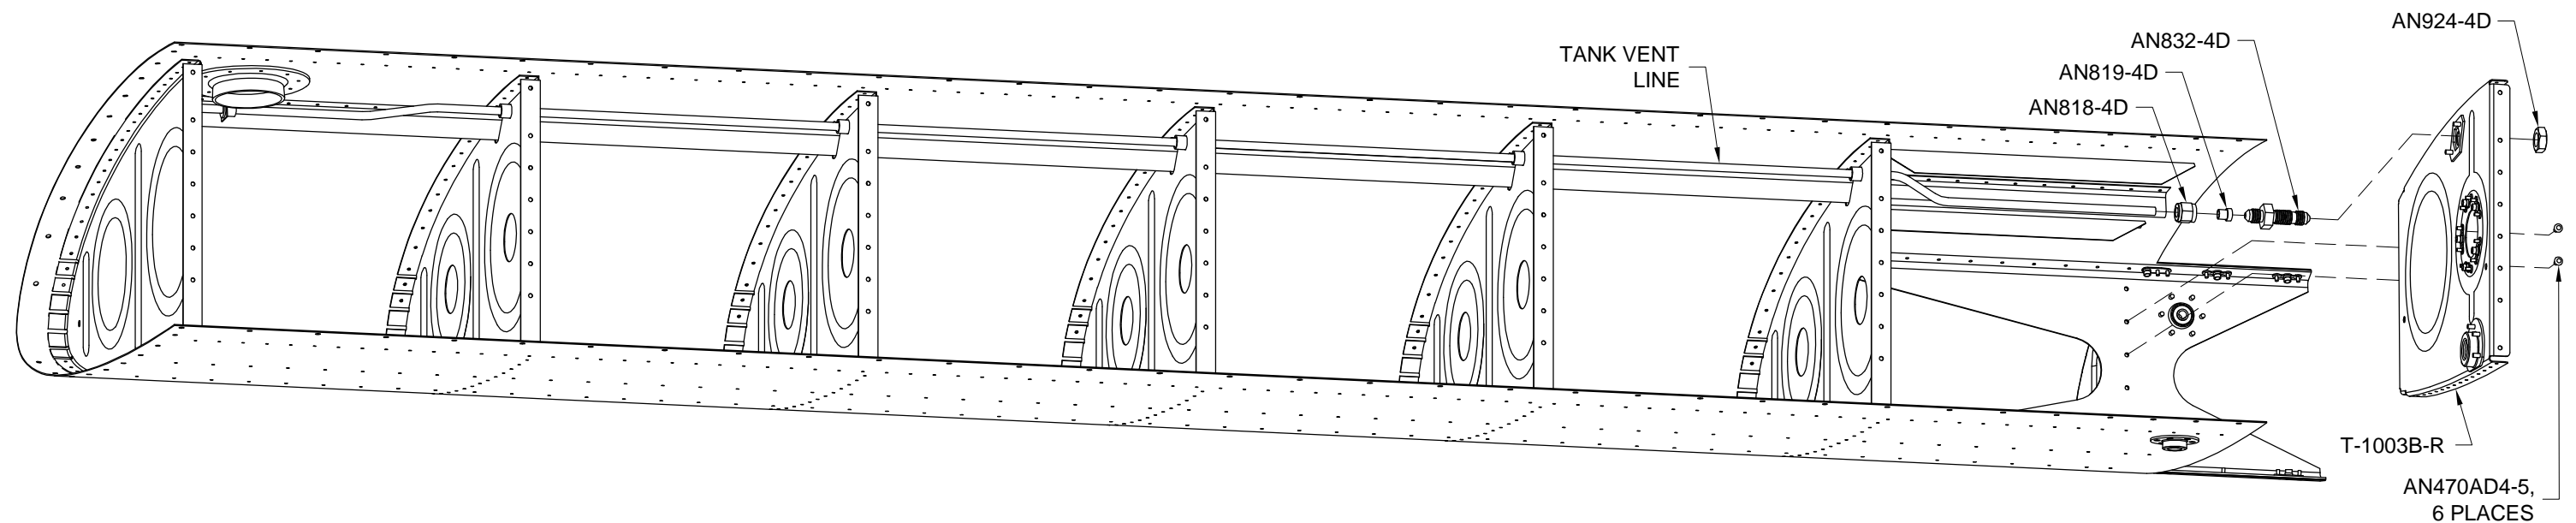

FIGURE 2: TANK VENT LINE AND INBOARD END RIB INSTALLATION
Step 4: Install the AN832-4D Bulkhead Union and AN924-4D Nut on the T-1003B-R tank end rib as shown in Figure 2.
Step 5: Rivet the T-1003B-R Tank Inbd Rib - Aft sub-assembly to the T-1001-L Fuel Tank Skin and T-1005-L Tank Attach Bracket as shown in Figure 2. See page 18-5, Figure 3 for rivet call-out.